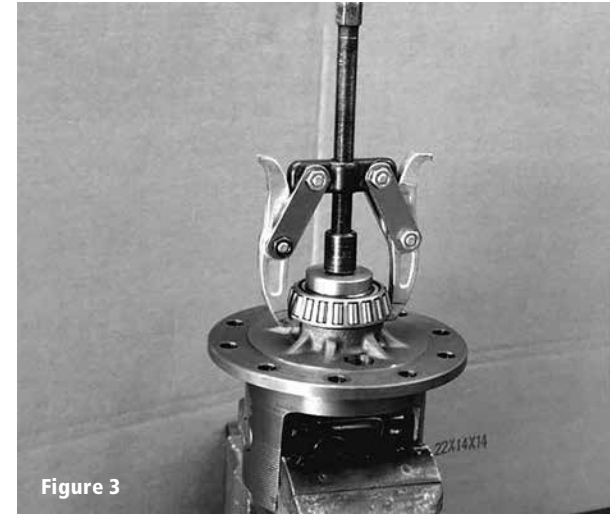

Figure 3
13. Remove differential bearing cones from the differential using the proper bearing puller and adapter. See Figure 3.